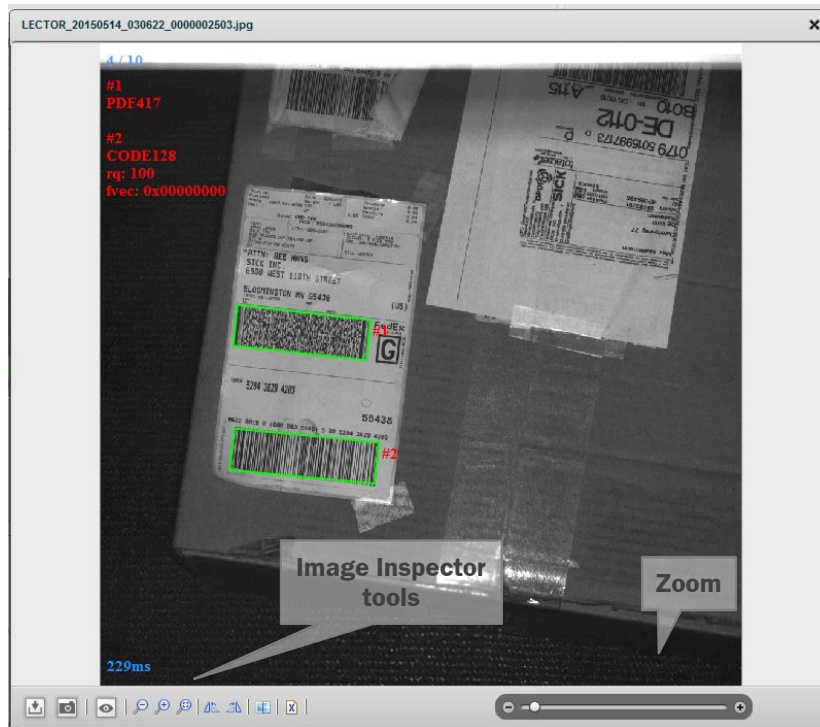

Figure 4-15: High Resolution Image in Image Inspector
- Double-click anywhere in the ROI in the thumbnail image. The image opens in the Image Inspector. Refer to Figure 4-15.
Figure 4-15 shows how NORCA data is displayed in the image inspector.